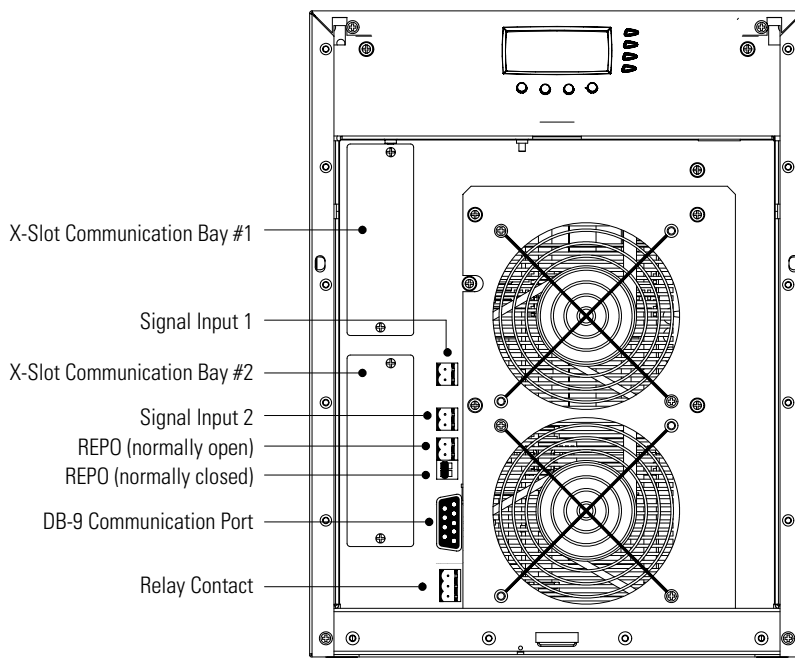
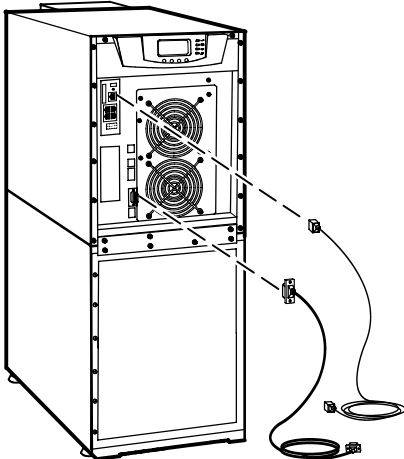
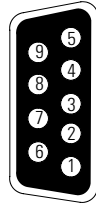

Figure 33. Communication Options and Control Terminals
Figure 35. Installing Communication Cables
Figure 38. Communication Port
Figure 33 shows the location of the communication options and control terminals on the UPS.
2. Install the appropriate X-Slot card and/or necessary cable(s) into the top cabinet (see Figure 33 and Figure 35).
The cable pins are identified in Figure 38 and the pin functions are described in Table 3. See Figure 33 on page 47 for serial port location.
See Figure 33 on page 47 for the location of the two X-Slot communication bays.